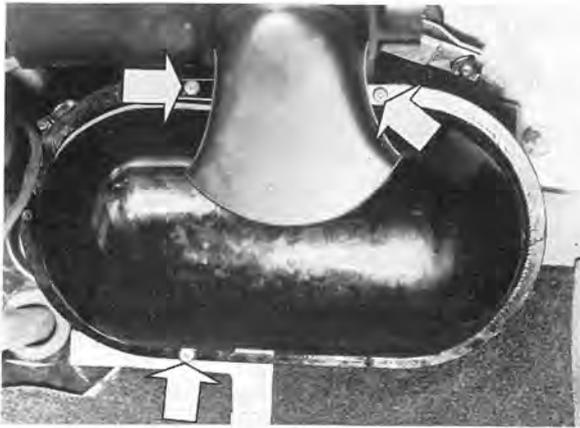

Fig. 8-67. Screws for vacuum tank
12. Remove the vacuum tank (Fig. 8-67), the right defroster nozzle, and the air hose between the central unit and the right, middle air vent.